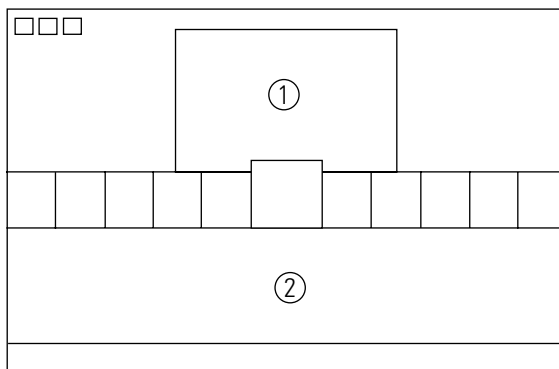

Fig. 4-4
1. Set SBT to 1.5 fL in the Factory Service Mode with using CA100. See Fig. 4-4.
1. Set SCT to 45 FL in the Factory Service Mode with using CA100. See Fig. 4-4 .